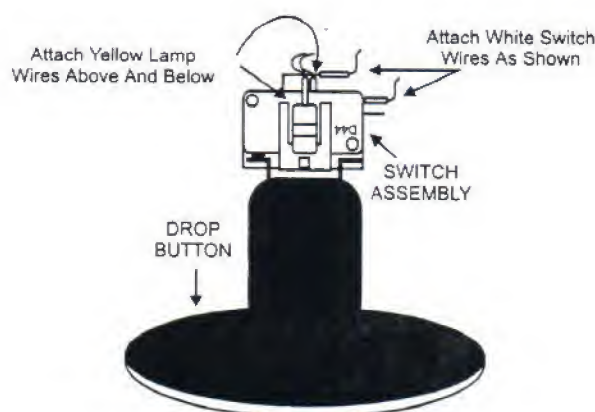

Fig 28. Switch wiring
18. Replace the wires as shown in Fig 28.